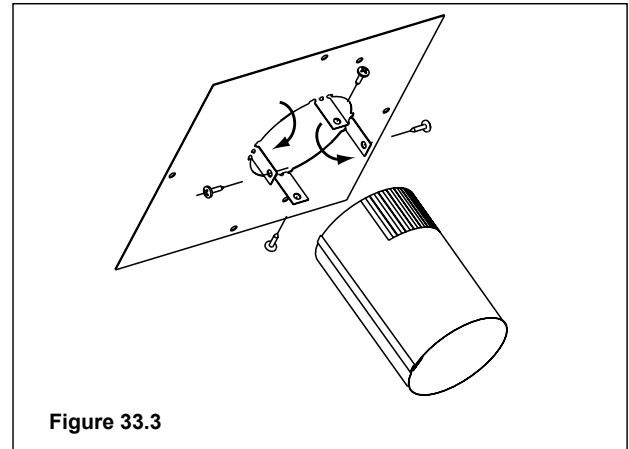

Figure 33.3
5. On the Mounting Plate, hand bend the tabs downward. Slide the tabs over the outside of the starter pipe. Secure with 4 sheet metal screws included in fasteners package. Figure 33.3.